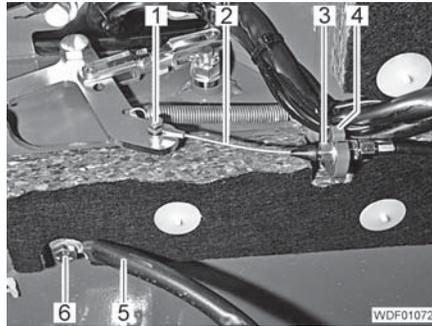

Fig. 357 Underside of the cab
- Unscrew the screw (Fig. 357,6) and remove the grounding strip (Fig. 357,5).
- Attach the grounding strip (Fig. 357,5).
- Screw in and tighten the screw (Fig. 357,6) with the serrated washer.